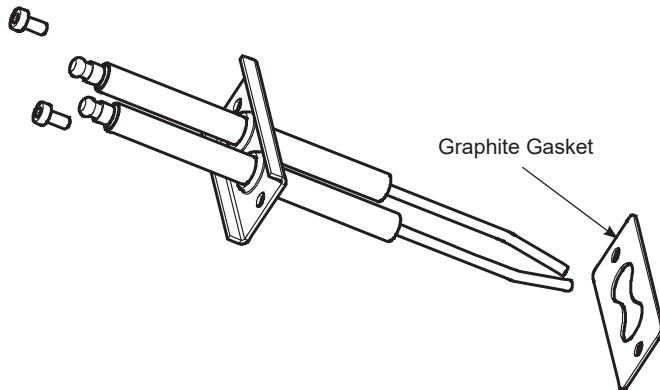

Figure 29: Igniter Electrode Assembly
- Install igniter as shown in Figure 29.